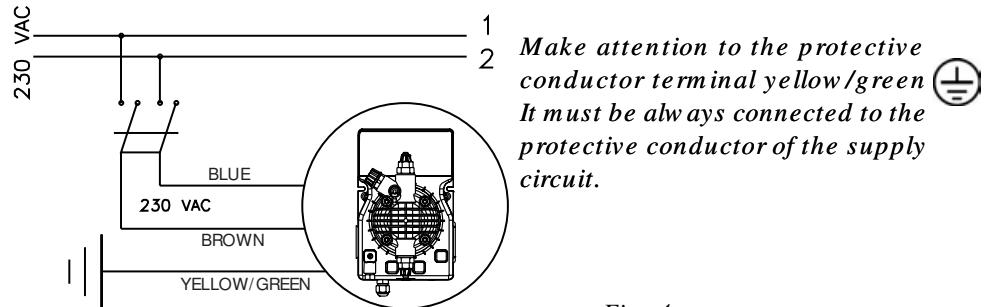

Fig. 4
b. - Carefully observe the regulations in force in the various countries as regards electrical installations (Fig. 4). When the supply cable is devoid of a plug, the equipment should be connected to the supply mains by means of a single-pole circuit breaker having a minimum distance of 3 mm between the contacts. Before accessing any of the electrical parts, make sure that all the supply circuits are open.